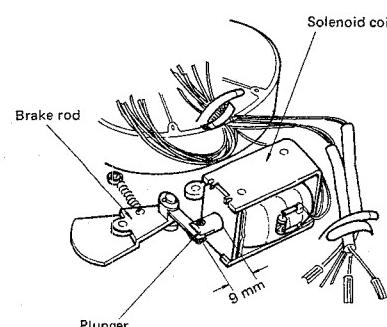
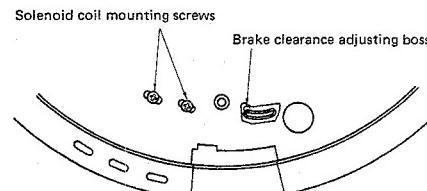

Fig. 15
Fig. 16
1. Fit the brake lining inside the platter (The function is the same as a normal brake). Slightly loosen the 2 solenoid mounting screws, then adjust the solenoid coil position until the clearance between the solenoid coil end and the plunger head is 9 mm. (Refer to Fig. 15.) After the adjustment, be sure to re-tighten the screws firmly (Refer to Fig. 16).
- How to use the brake clearance adjusting boss. (Refer to Fig. 16)